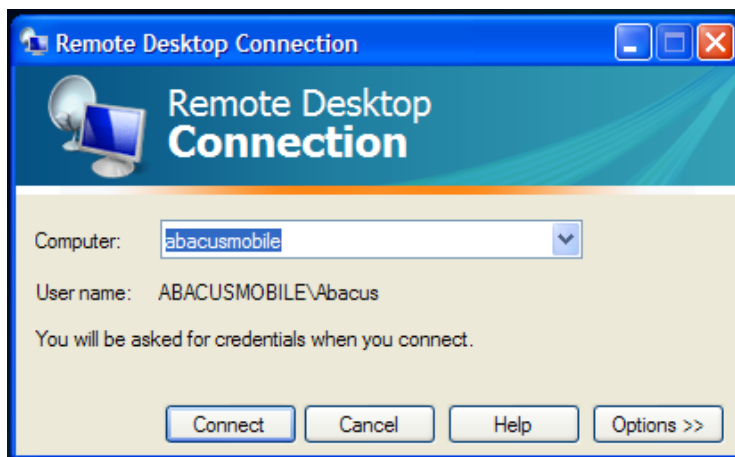

Figure 2.3 (a)
2. Enter Abacus name from the server chassis in computer field and click Connect. (Figure 2.3 (a))
3. Enter username and password. (Figure 2.3 (b))